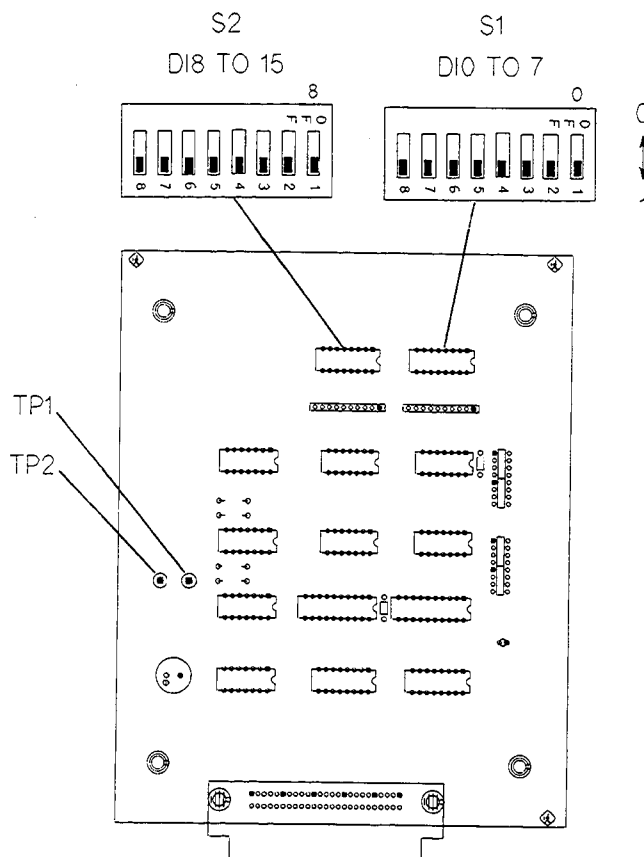

Figure 1-17. Bias Interface Simulator
1. Set all switches of S1 and S2 on the bias interface simulator to '1' as shown in Figure 1-17.
2. Set DC power supply output voltage to +5 V. Connect TP2(GND) on the bias interface simulator to the '-' terminal of the power supply. Then connect TP1(Vcc) on the simulator to the '+' terminal of the power supply. (Refer to Figures 1-17 and 1-18)